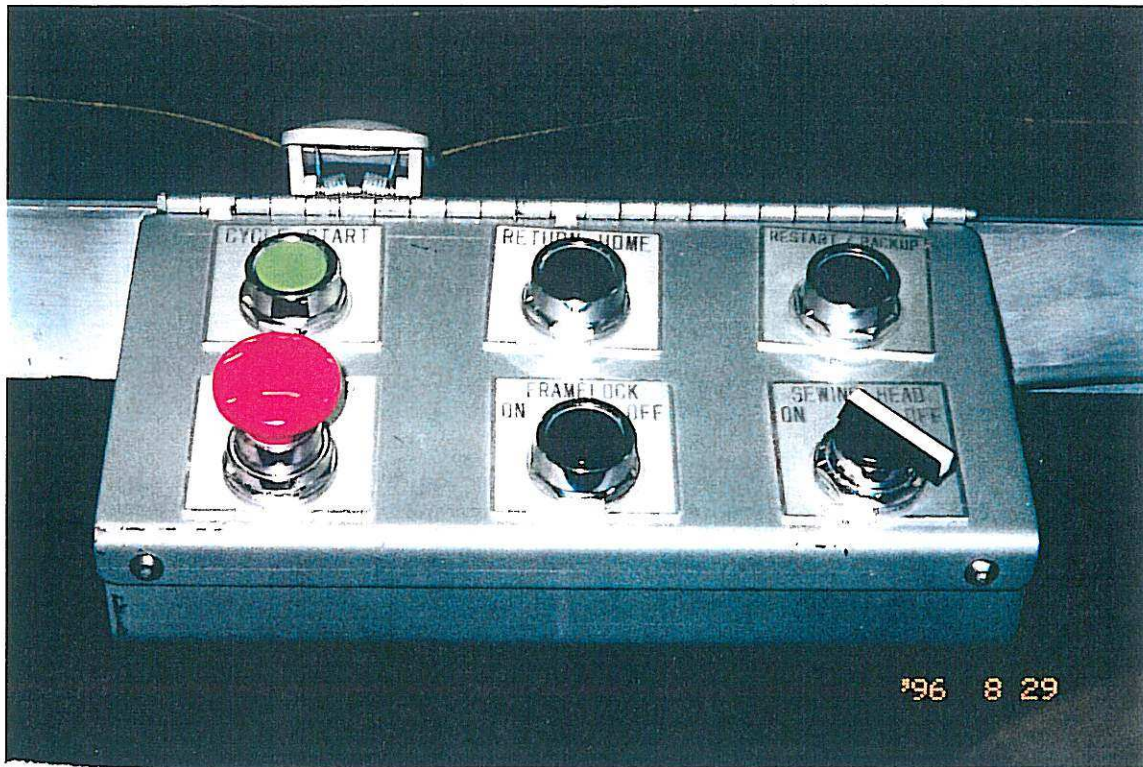

Figure 4.2
B. Start Button: Located on the control panel mounted to the right Y-rail. See *Figure 4.2*. Starts the quilting cycle.